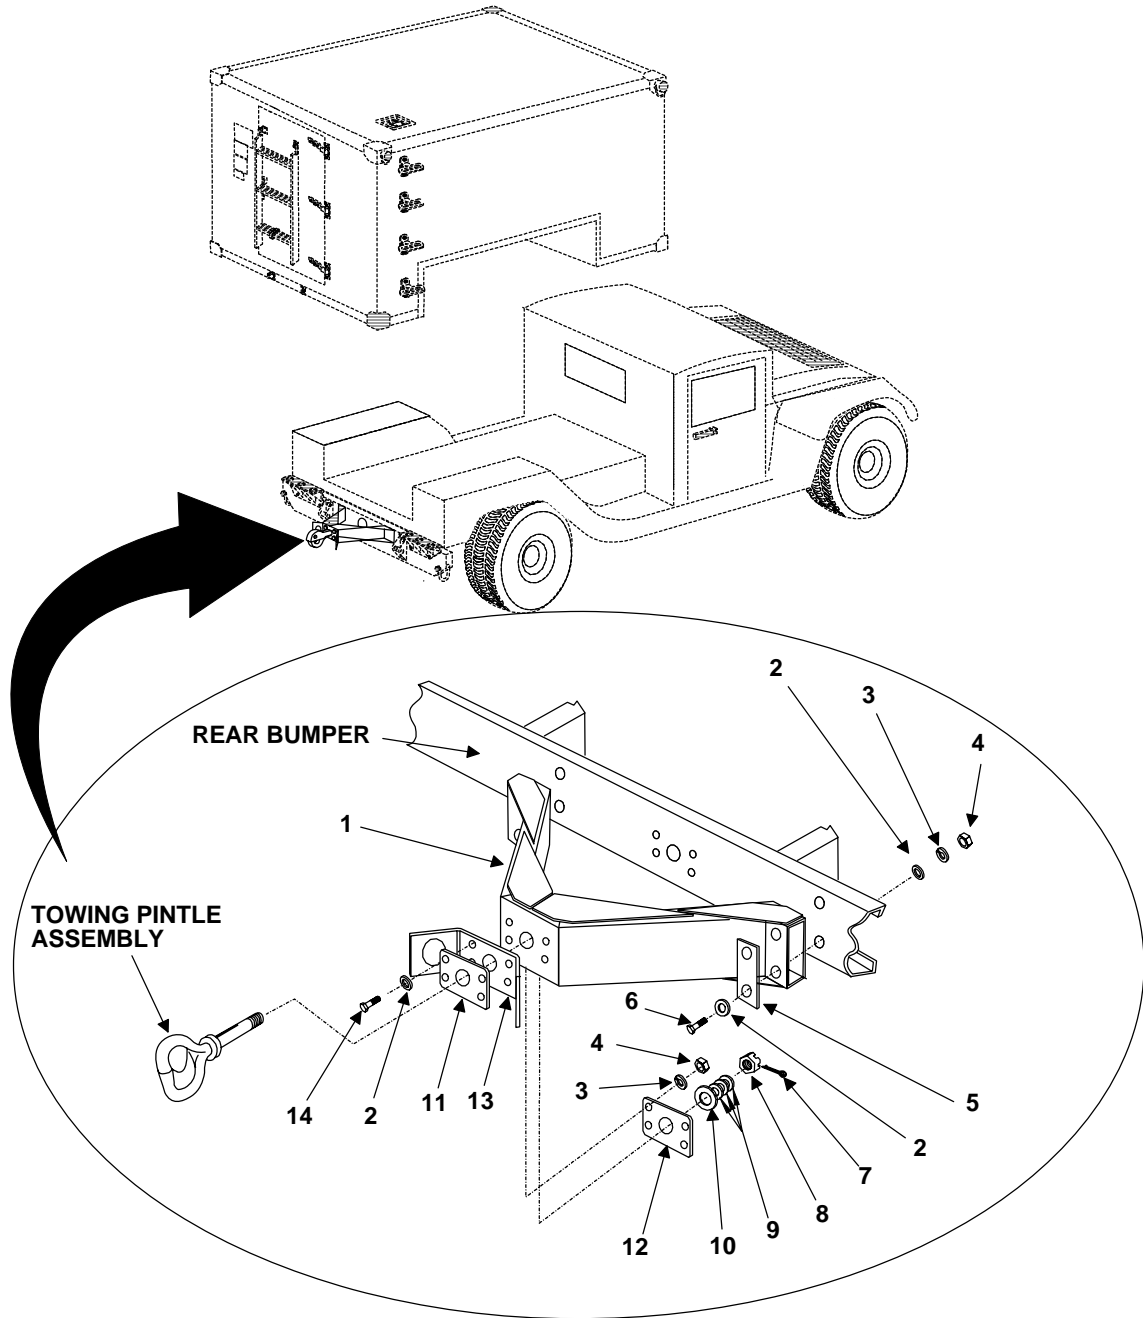

Figure 3. Pintle Extension Kit Installation.
Steps 11 through 15 will refer to Figure 3. Pintle Extension Kit Installation.
11. Secure pintle extension (figure 3, item 1) to rear bumper and left and right inner supports with 8 existing washers (figure 3, item 2), 4 lock washers (figure 3, item 3), 4 nuts (figure 3, item 4), 2 plates (figure 3, item 5), and 4 screws (figure 3, item 6). Tighten nuts (figure 3, item 4) to 90 ft. lbs.
12. Secure existing safety chain plate (figure 3, item 13), support plate (figure 3, item 11), and pintle plate (figure 3, item 12) to pintle extension (figure 3, item 1) with 4 screws (figure 3, item 14), washers (figure 3, item 2), lock washers (figure 3, item 3), and nuts (figure 3, item 4). Do not tighten.
14. Secure towing pintle assembly to pintle extension (figure 3, item 1) with existing washer (figure 3, item 10), 3 washers (figure 3, item 9), existing nut (figure 3, item 8), and cotter pin (figure 3, item 7).
15. Tighten nuts (figure 3, item 4) installed in step 12 to 90 ft. lbs.